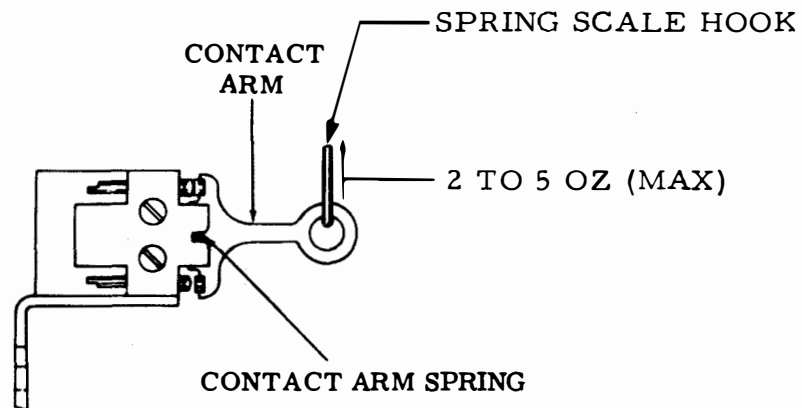

Figure 6-409. Contact Arm Spring, Right Side View
(4) Contact Arm Spring. Adjust as follows:
- (a) Refer to Figure 6-409.